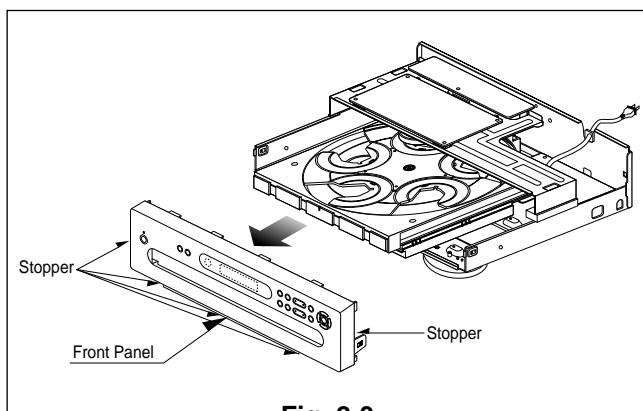

Fig. 2-3
3. Pull the front panel toward you while pressing 5 stoppers to disengage, and remove the front panel. (See Fig. 2-3)
1. Remove the front panel.(See Fig. 2-3)
2. Release 6 screws (G), and remove the digitron circuit board.